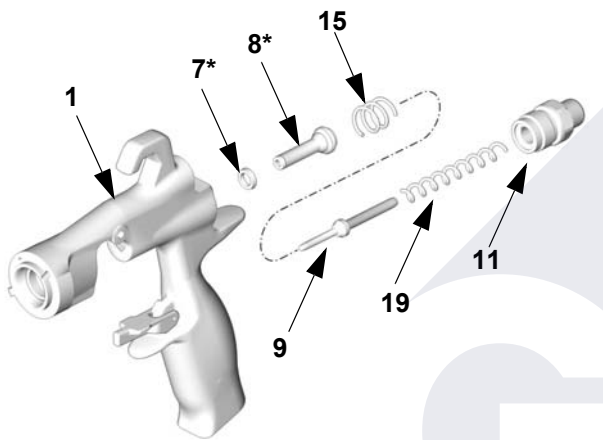

FIG. 39
1. Unscrew the spring cap (11) from the back of the gun body (1) using the gun tool (30). Remove the two springs (15 and 19) and the shaft (9).
2. Push the air valve assembly (8*) out the back of the gun. See FIG. 39.
3. Inspect the u-cup (7*) in the gun body (1). If the u-cup is worn or leaking, carefully remove the u-cup from the front of the gun body, using a pick.